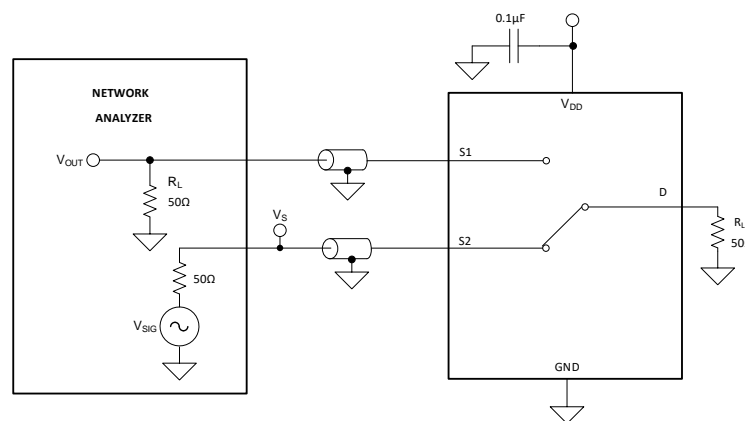

图 14. Crosstalk Measurement Setup
Crosstalk is defined as the ratio of the signal at the drain pin (D) of a different channel, when a signal is applied at the source pin (S_x) of an on-channel. 图 14 shows the setup used to measure, and the equation used to calculate crosstalk.